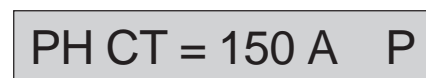

Figure 43: New setting stored; stops flashing
4. Press the *enter* button to store the new setting. The displayed setting stops flashing (figure 43) and goes into effect immediately.